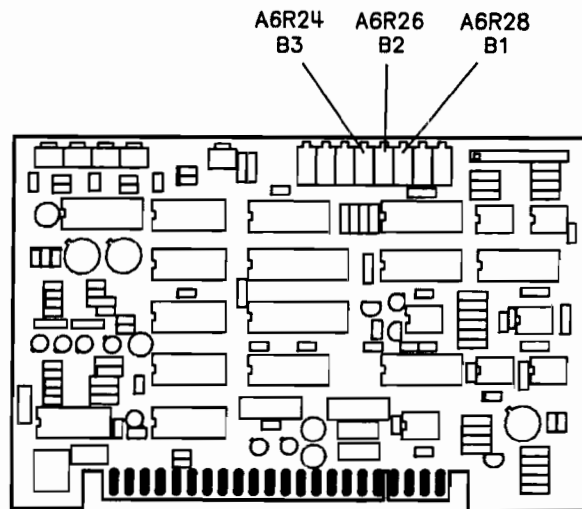
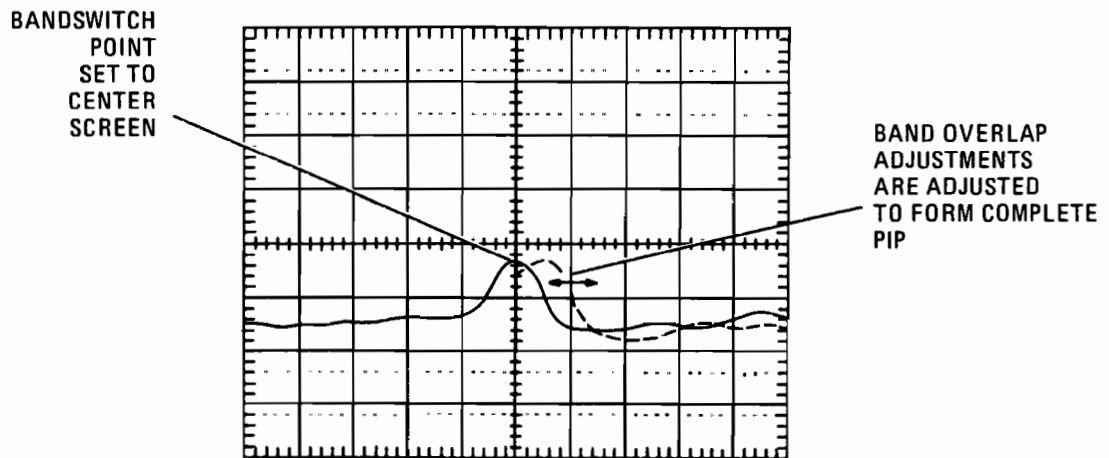

Figure 5-25. Band Overlap Adjustment Locations
Figure 5-26. Band Overlap Adjustment Waveform
7. Adjust A6R28 (B1) to bring the right side pip over to the switch point so that the right half of this pip mates with the left half of the other as shown in Figure 5-26. Refer to Figure 5-25 for the adjustment location. The pip should be undisturbed as it moves through the bandswitch point.